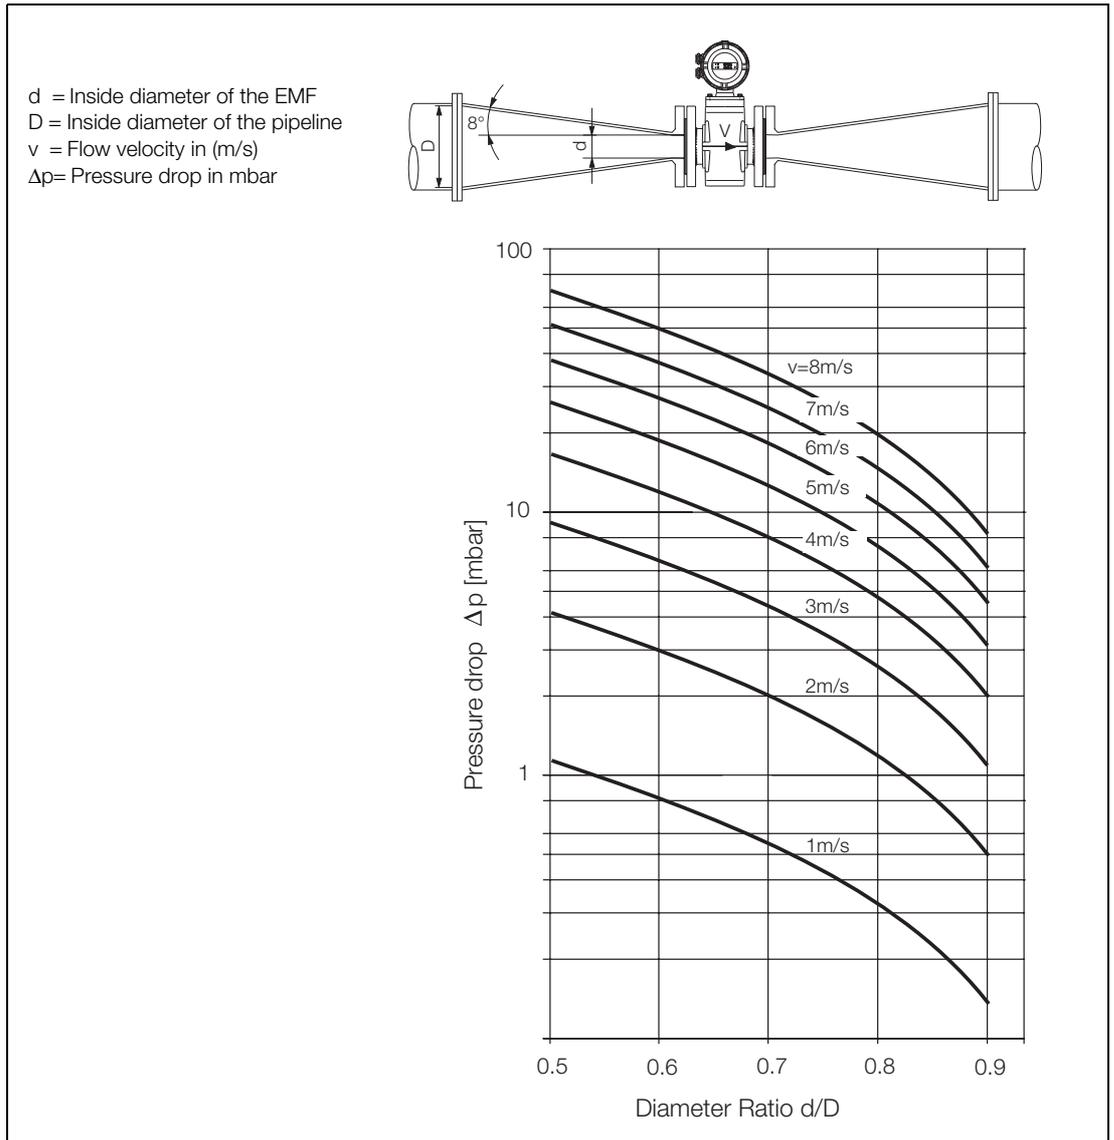

Fig. 14: Nomograph for Pressure Drop Determination for EMF with Flanged Reducers, $a/2 = 8^\circ$
The flowmeter can readily be installed in larger size pipe lines by using of reducers. The pressure drop resulting from the reduction can be determined using the Nomograph Fig. 14 using the following procedure:
3. The pressure drop can be read on the -Y- axis at the intersection of the flow velocity curve and the "Diameter Ratio d/D " value on -X- axis in Fig. 14.